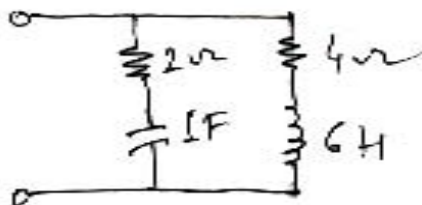

Fig. 4
- b) Find driving point impedance function of the one port network in figure 4. Also find its poles and zeros. 8